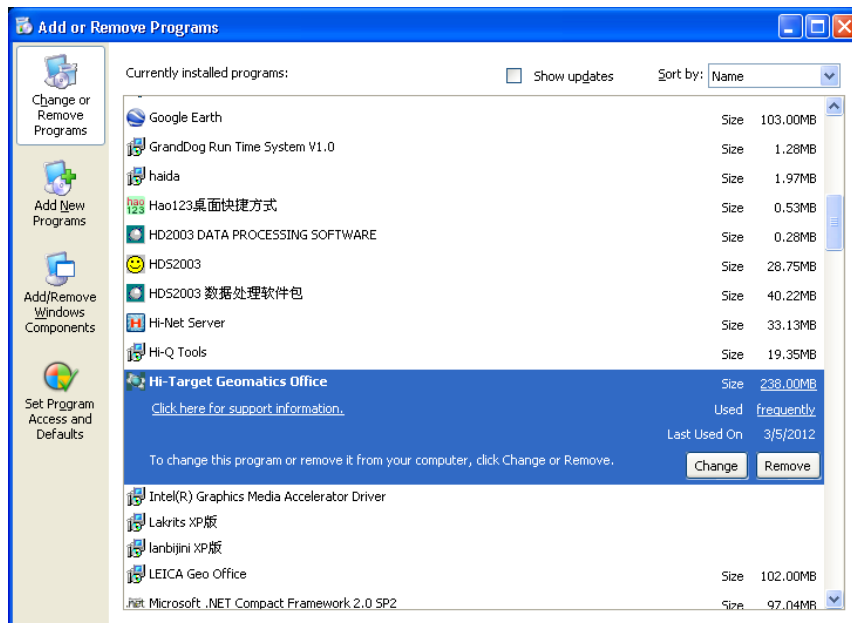

Figure 1-8
2. Select “Start\Setting\Control Panel”, chose **Control Panel**, then **Add/Remove Programs**, the “Add/Remove Programs” Properties dialog appears. Click on **Add/Remove** get a pop-up window as figure 1-8.